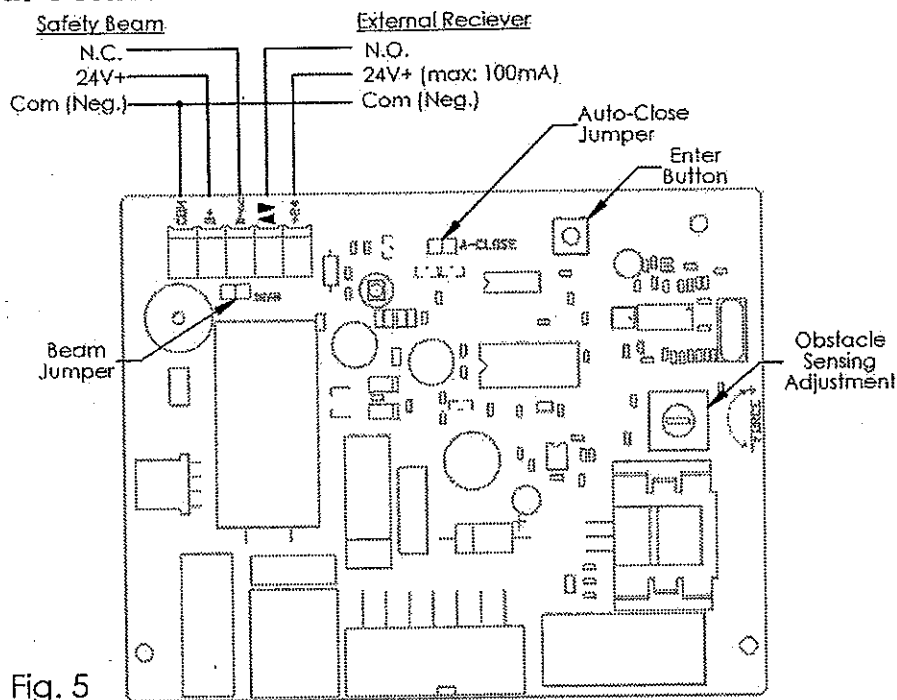

Fig. 5
8. Adjust the Obstacle Sensing by means of the trimmer shown in Fig.5, page 12, while physically checking the force of the door on the shoulder. Also check that the door is able to sense a block 40mm high placed on the floor in the centre of the doorway.
The operator has a built-in safety feature that will disable the auto-close function after sensing three successive obstacles, while attempting to close the door. Once the obstacle has been removed and the door fully closed the Auto-close function will re-enable automatically. **For the jumper location see p12, Fig. 5.**
Important! Choose a suitable mounting height, low enough to protect toddlers and pets, but not lower than the underside of a typical motor vehicle. The wire to the Safety beams may be placed in the groove on top of the strut and wired through the spare grommet into the power head. To enable the safety beams after installation and wiring is complete, remove the jumper marked 'BEAM' on the control board. Refer to Fig.5 on Page 12.